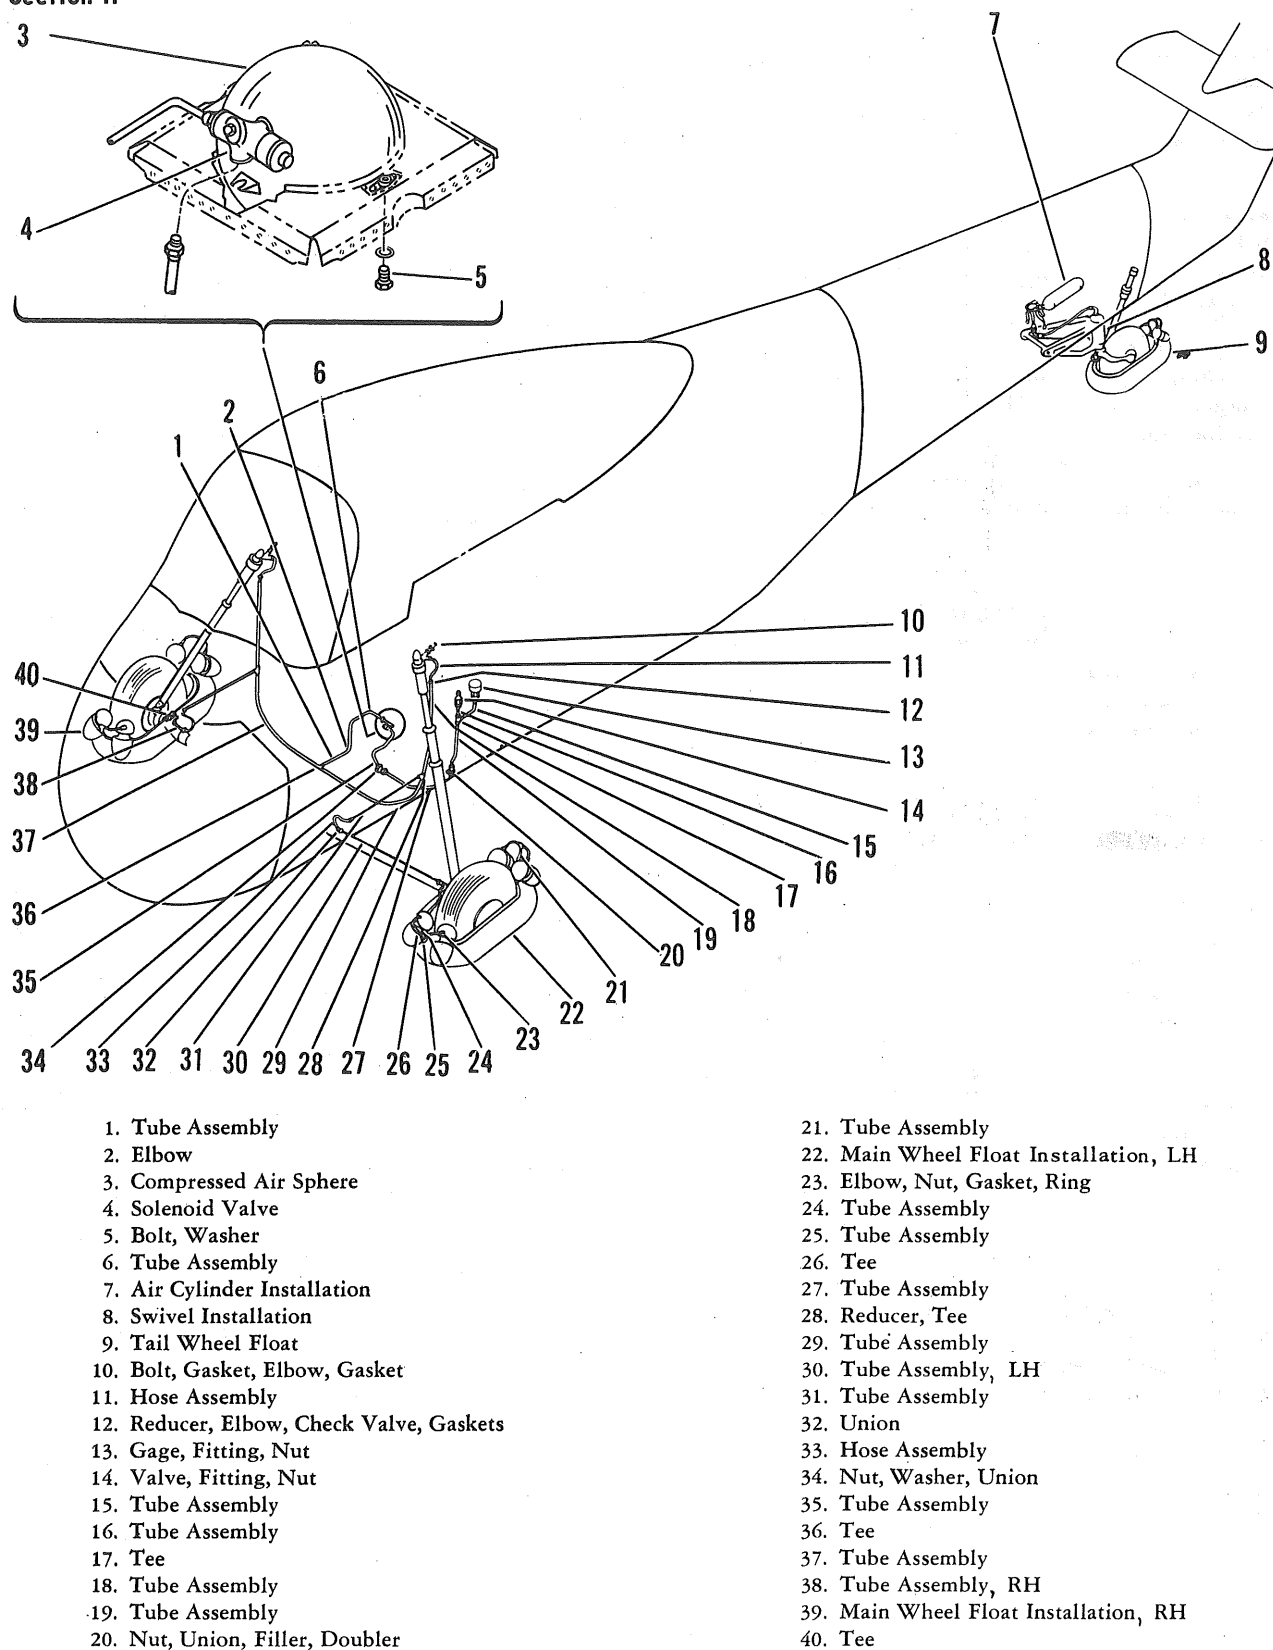
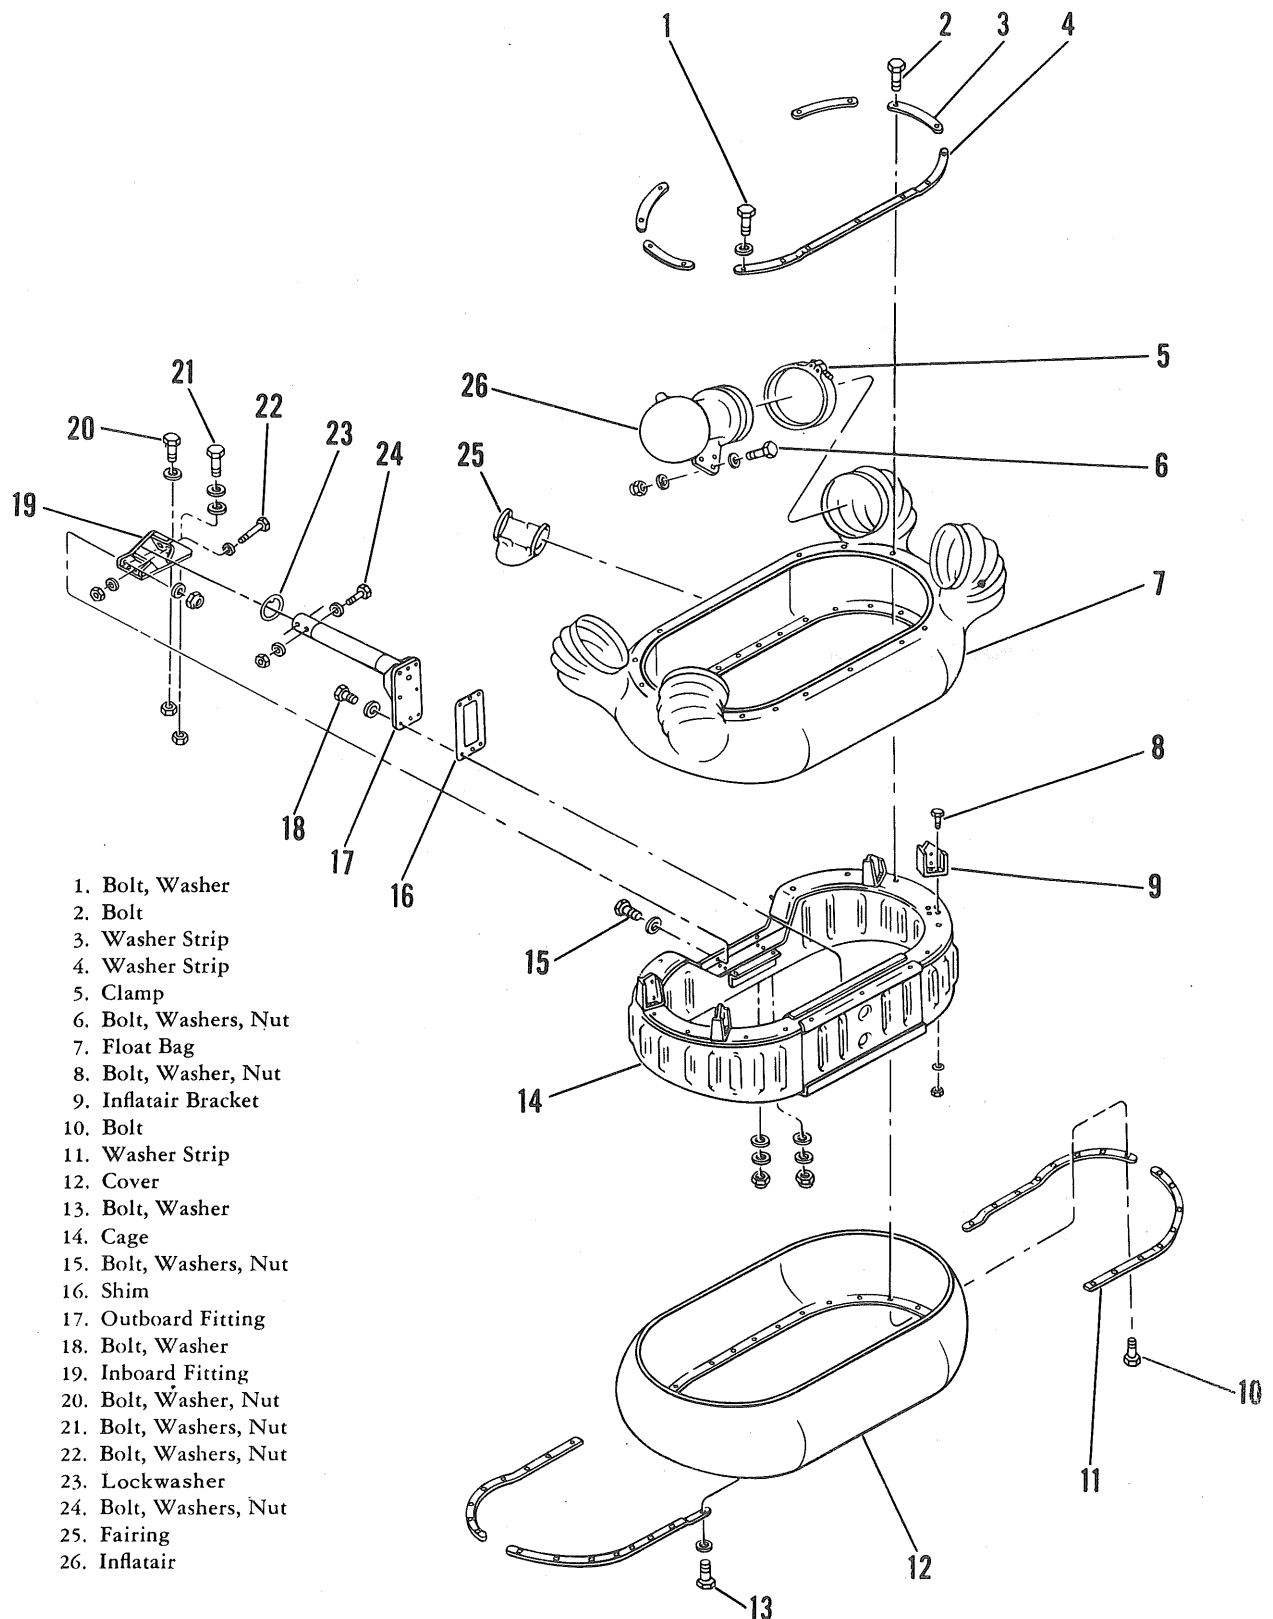

Figure 2-4. Emergency Flotation Gear Installation
Figure 2-7. Main Wheel Float Removal and Disassembly
2-34. DESCRIPTION. (See figures 2-4 and 2-5.) On helicopters serial No. 56-4316, 56-4320, 57-1684, and 57-1697, the emergency flotation gear installation consists primarily of two main wheel floats, a tail wheel float, a compressed air sphere, an air cylinder installation, a swivel installation, and the necessary valves, tubing, wiring, and brackets. The system is armed by the ARM SW arming switch located on the instrument panel next to the pilot's rate-of-climb indicator. The EMER FLOT WARN light goes on to indicate that the system is armed. The system is activated by the EMER FLOT switch on the pilot's cyclic control stick which activates the solenoid valves on the air containers. Provisions are made for a switch on the copilot's cyclic control stick. In operation, high pressure air is fed through lines to the Inflatairs on the floats. Some of the compressed air is routed into the shock struts to extend them to their maximum length. The passage of air through the venturi in the Inflatairs causes the floats to inflate with atmospheric air. Operation of the helicopter with floats inflated is restricted to emergency landing on water. Power for the emergency flotation circuit is provided by the primary bus through the circuit breaker, marked EMER FLOT, on the overhead control panel.
2-37. REMOVAL. (See figures 2-4 and 2-7.)
a. Disconnect and remove air lines at union (32, figure 2-4) and at Inflatairs (26, figure 2-7).
d. Support float assembly and remove bolts and washers (18, figure 2-7) which secure outboard fitting (17) and shim (16) to cage (14).
e. Remove bolts that secure inboard fitting (19) to axle. Remove float bag (7), Inflatairs (26), and cage (14) as a unit.
f. Remove remaining bolts, washers, and nuts (24) from axle and outboard fitting (17). Pull out outboard fitting. Slide off lockwasher (23).
g. Remove bolts that secure Inflatairs (26) to Inflatair brackets (9).
h. Remove clamps (5) which secure Inflatairs (26) to float bag (7) and remove Inflatairs.
j. Remove bolts (2 and 10), bolts and washers (1 and 13), and washer strips (3, 4, and 11) which attach float bag (7) to cage (14). Remove float bag. Peel off cover (12).
k. Remove bolts, washers, and nuts (15, 20, and 21) which attach inboard fitting (19) to cage (14). Remove inboard fitting.
l. Remove bolts and washers (18) which attach Inflatair brackets (9) to cage (14). Remove brackets.
m. Unbuckle strap and remove fairing (25) covering tiedown ring.
p. Apply anti-seize compound, Federal Specification TT-A-580, to all threads and connect air lines at union (32, figure 2-4) and at Inflatairs (26, figure 2-7).
a. Position and buckle the fairing (25, figure 2-7) over tiedown ring.
b. Bolt Inflatair brackets (9) to cage (14).
c. Bolt inboard fitting (19) to cage (14).
d. Attach float bag (7) and cover (12) to cage (14) with bolts (2 and 10), bolts and washers (1 and 13), and washer strips (3, 4, and 11).
e. Install Inflatairs (26) in float bag (7) and secure with clamps (5).
j. Install outboard fitting (17) in axle with lockwasher (23) riding on axle. Position tang on lockwasher (23) in keyway. Align holes in fitting and axle and install bolt, washers, and nut (24) through outboard hole.
k. Position and support flotation gear and align outboard hole in inboard fitting (19) with remaining hole in axle and outboard fitting (17). Bolt inboard fitting (19) to axle, and outboard fitting (17) and shim (16) to cage (14).
n. Apply anti-seize compound, Federal Specification TT-A-580, to all threads and connect air lines at union (32, figure 2-4) and at Inflatairs (26, figure 2-7.)